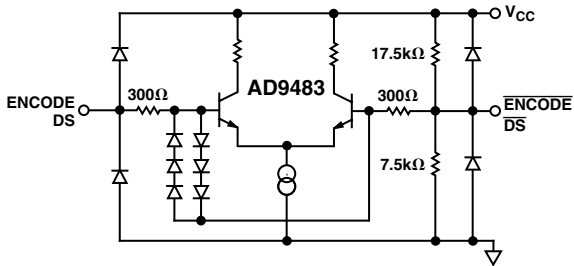

Figure 5. Equivalent Encode and Data Select Input Circuit
ENCODE and Data Select (DS) can be driven differentially or single-ended. For single-ended operation, the complement inputs ($\overline{\text{ENCODE}}$, $\overline{\text{DS}}$) are internally biased to $V_{DD}/3$ ($\sim 1.5\text{ V}$) by a high impedance on-chip resistor divider (Figure 5), but they may be externally driven to establish an alternate threshold if desired. A 0.1 μF decoupling capacitor to ground is sufficient to maintain a threshold appropriate for TTL or CMOS logic.
Note the 6-diode clock input protection circuitry in Figure 5. This limits the differential input voltage to $\pm 2.1\text{ V}$. When the diodes turn on, current is limited by the 300 Ω series resistor. Exceeding 2.1 V across the differential inputs will have no impact on the performance of the converter, but be aware of the clock signal distortion that may be produced by the nonlinear impedance at the converter.